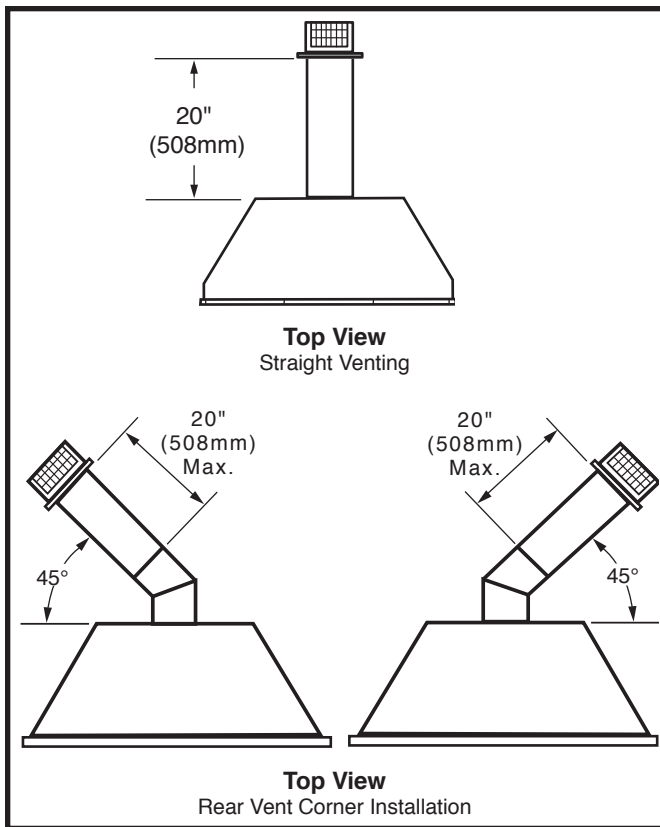

Fig. 14 Rear vent applications, one 45° elbow.
- The maximum horizontal distance between the rear of the appliance (or end of the transition elbow in a corner application) and the outside face of the rear wall is 20” (508mm). (Fig. 14)